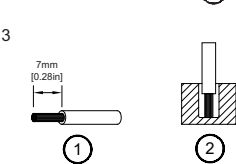

Figure 4
You can use flexible (stranded wire) or solid wire with cross section 0.32-5.3 mm² (AWG 22-10) and torque of 0.45Nm (3.96lb in). To secure reliable and shock proof connections, the stripping length should be 7 mm [0.28 in] (see Fig. 4 (1)). Please ensure that wires are fully inserted into the connecting terminals as shown in Fig. 4 (2).